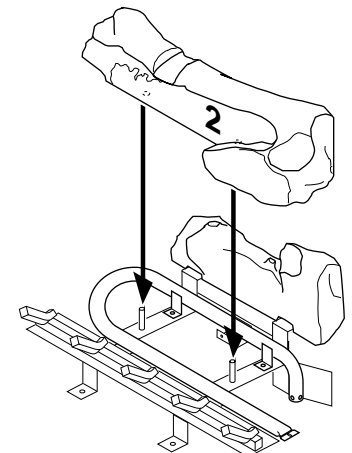

Figure 56 - Installing Log No. 2
- Rest log #2 (large front log) on the pins on the front part of the grate (see Figure 56).